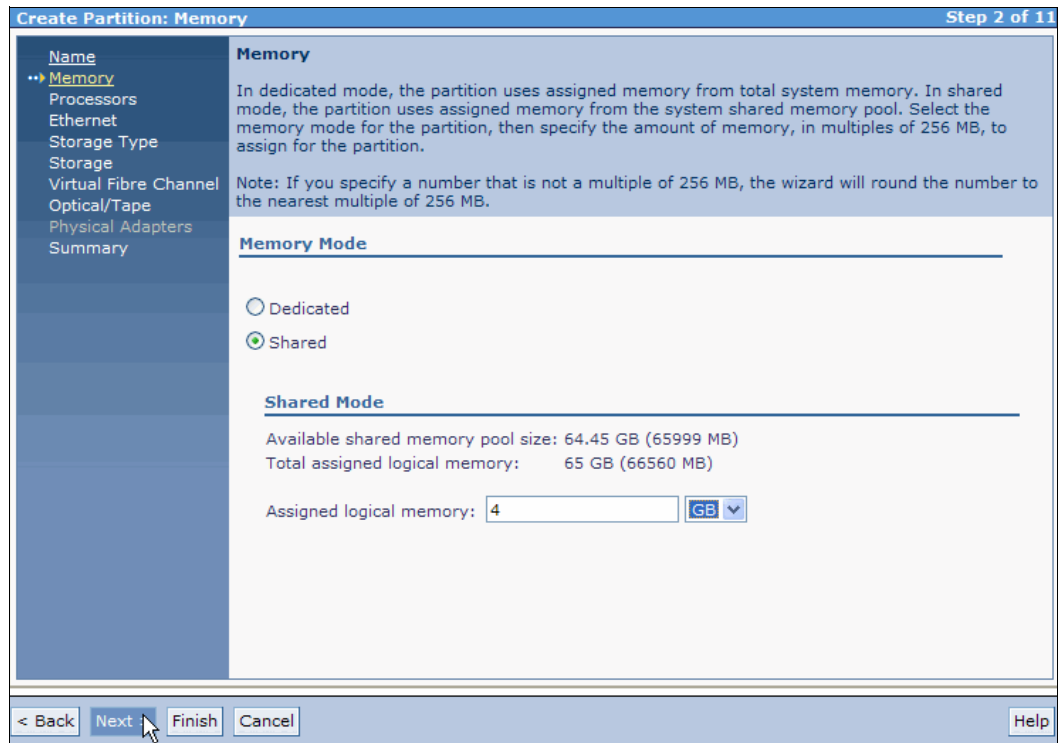
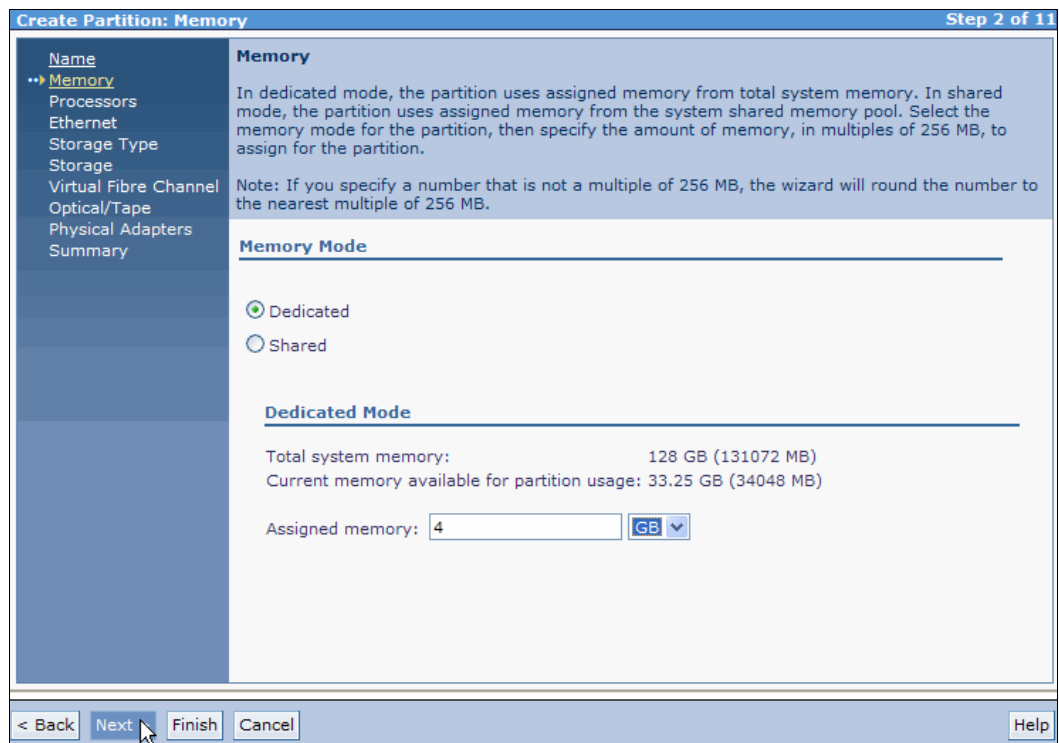

Figure 4-37 Create Partition: Assign memory for the shared memory mode
Figure 4-38 Create Partition: Assign memory for the dedicated memory mode
3. Select the memory mode for the new partition. Figure 4-37 shows the window for the shared memory mode. Figure 4-38 shows the window for the dedicated memory mode. Enter the amount of memory needed. Click **Next**.